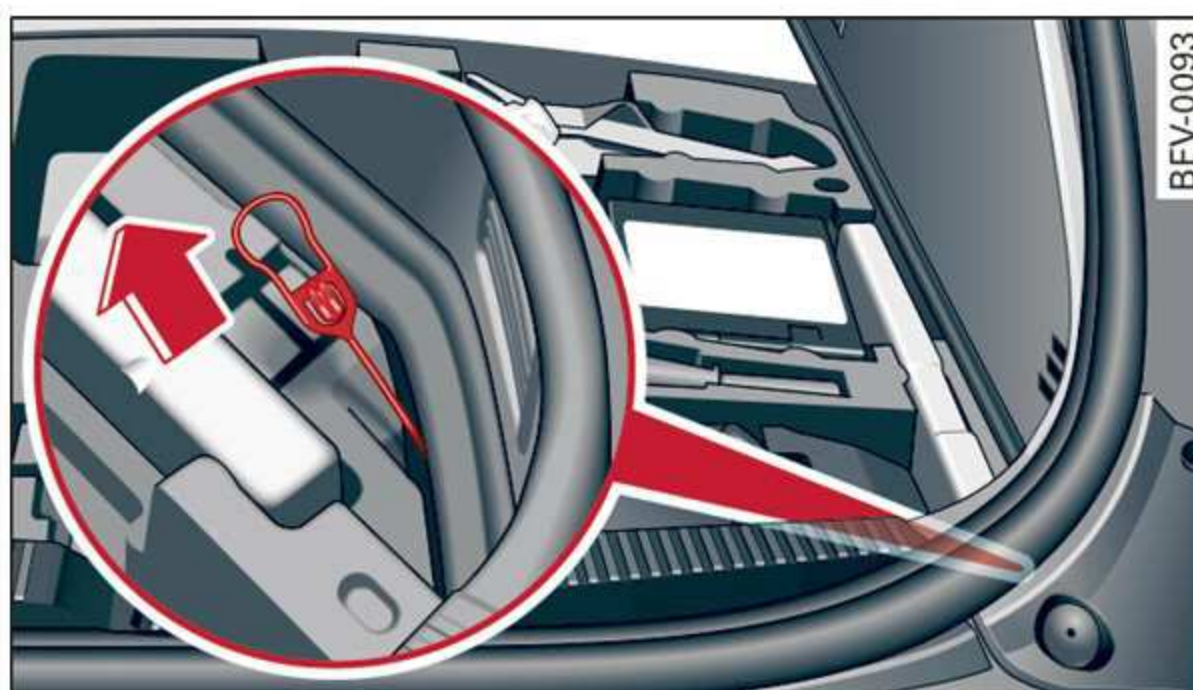

Fig. 170 Luggage compartment: cover in the right side trim panel
- ▶ To unlock the fuel filler door, loosen the loop from the retainer and then pull on the loop carefully ⇒ *fig. 170* ⇒ .